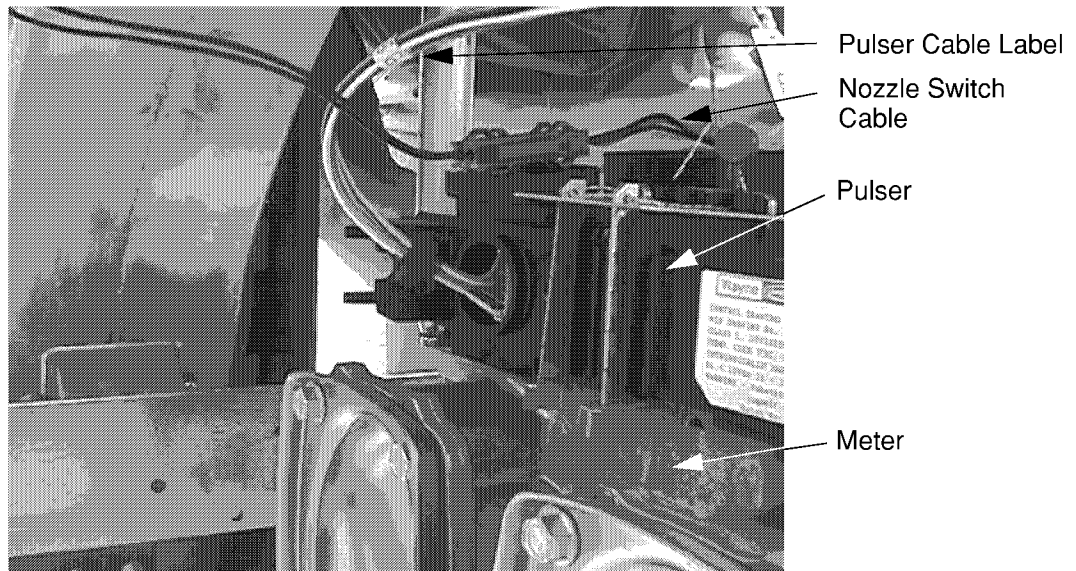

Figure 3-6 Pulser Cable Installation
8. Connect the new pulser/nozzle switch harness cable labelled HI to the middle pulser and the cable labelled LO to the left pulser. Re-use grommet and cover removed earlier. See Figure 3-6.